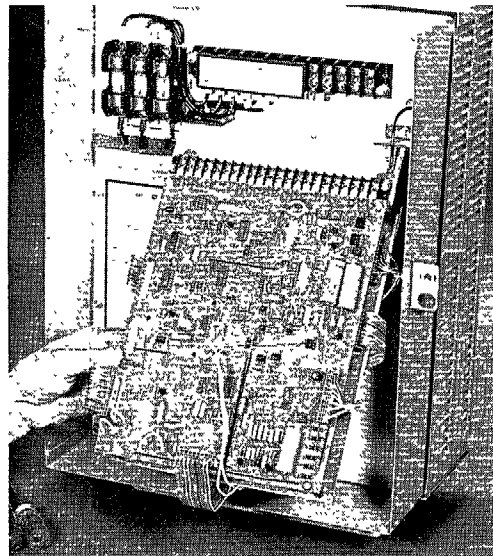
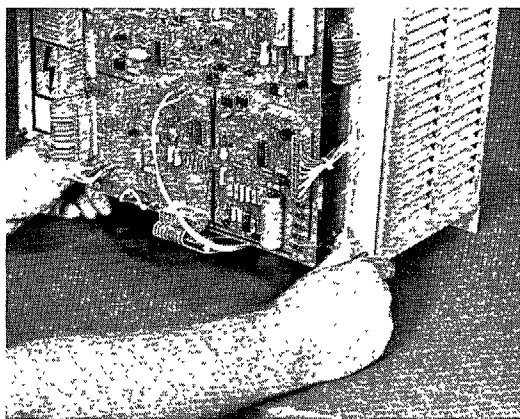

FIGURE 23
FIGURE 22
6. Release the left and right (bottom) card assembly latches (Fig. 22) and swing the card assembly up to its latched up position (see Figures 23, 24 and 24B).